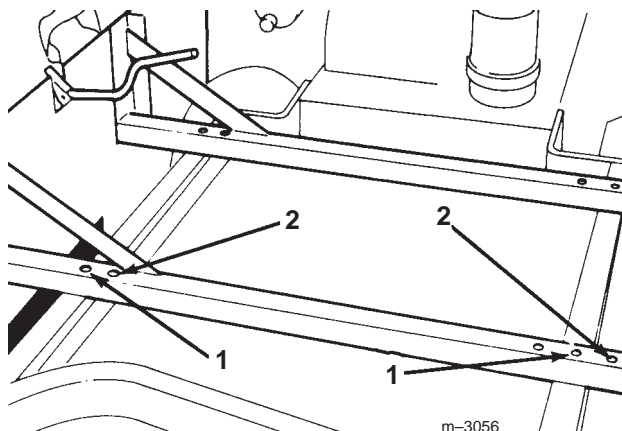
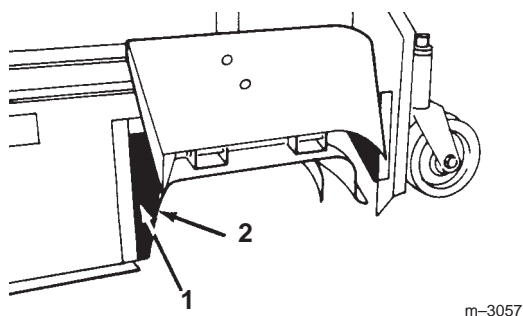

Figure 5
Figure 6
1. Position the back panel and mounting beam assembly onto the cutting mower and carrier frame (Fig. 5). The rubber extension should be touching the back edge of the discharge opening (Fig. 6).